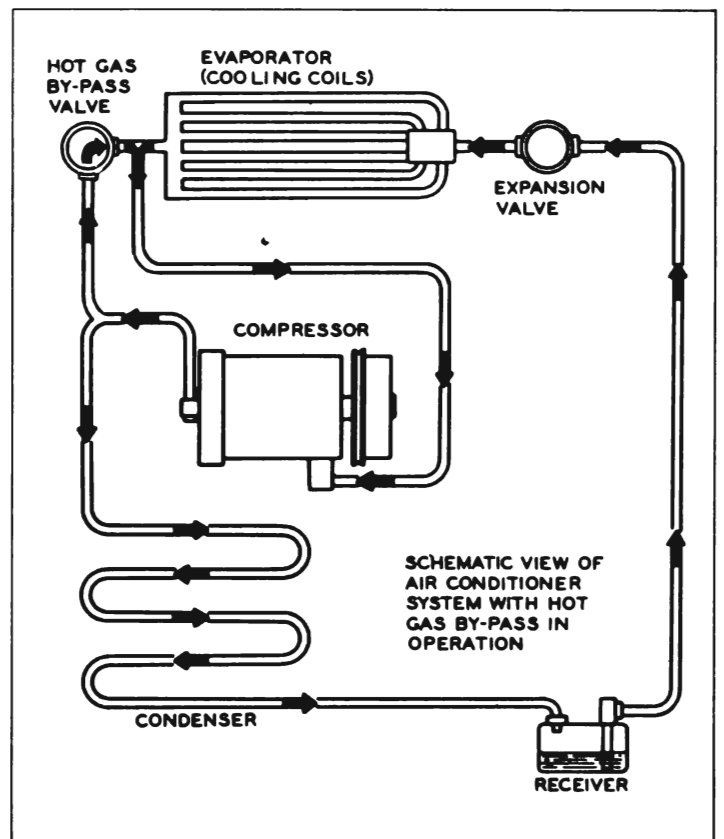

Figure 11-19—Air Conditioning System—Schematic
6. *Hot Gas By-pass Valve.* Figure 11-19 is a schematic view of the operating refrigeration